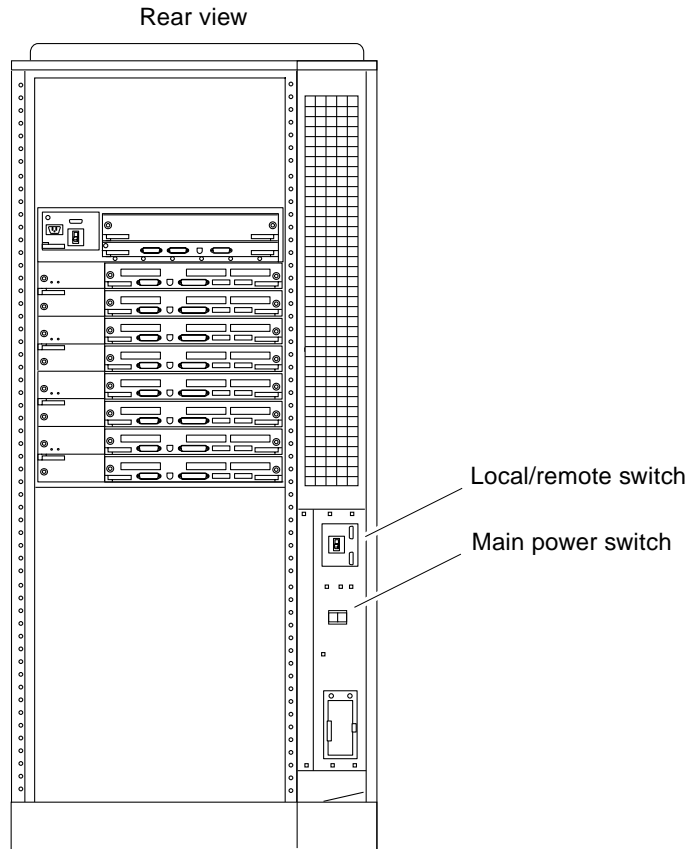
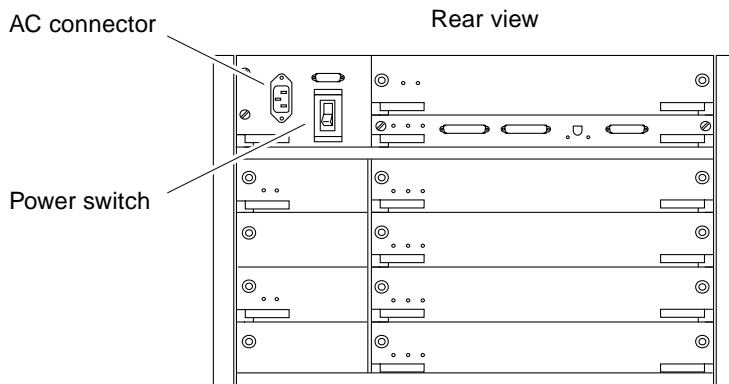

FIGURE 11-2 AC Power Switch (Enterprise 6500 and 5500)
FIGURE 11-4 AC Power Switch (Enterprise 4500)
7. **Turn the main power switch (FIGURE 11-2) to Off.**
- 6. Turn the AC power switch on the system rear off (FIGURE 11-4).**
2. **Enterprise 6500/5500 systems only: turn the Local/Remote switch down, to Local (FIGURE 11-2).**
3. **Turn on the AC main power switch (FIGURE 11-2 or FIGURE 11-4).**